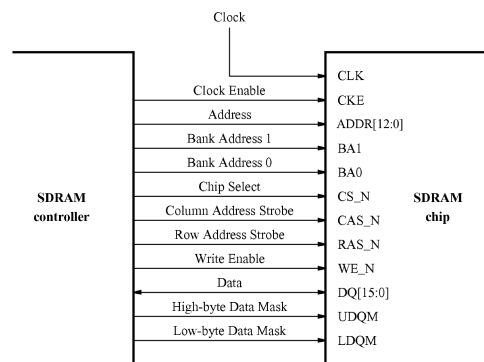

Figure 2. The SDRAM signals.
The two SDRAM chips on the DE2-115 board each have a capacity of 512 Mbits (64 Mbytes). Each chip is organized as 8M x 16 bits x 4 banks. The signals needed to communicate with a chip are shown in Figure 2. All of the signals, except the clock, can be provided by the SDRAM Controller that can be generated by using the Platform Designer tool. The clock signal is provided separately. It has to meet the clock-skew requirements as explained in section 7. Note that some signals are active low, which is denoted by the suffix N.
The Platform Designer tool generates an HDL file for the system, which can then be instantiated in a VHDL file. The augmented VHDL entity generated by the Platform Designer tool is in the file *nios_system.v* in the *nios_system\synthesis* directory of the project. Figure 8 depicts the portion of the code that defines the input and output signals for the entity *nios_system*. As in our initial system that we developed in the introductory tutorial, the 8-bit vector that is the input to the parallel port *Switches* is called *switches_export*. The 8-bit output vector is called *leds_export*. The clock and reset signals are called *clk_clk* and *reset_reset_n*, respectively. A new entity, called *sdram*, is included. It involves the signals indicated in Figure 2. For example, the address lines are referred to as the **output** vector *sdram_wire_addr[12:0]*. The data lines are referred to as the **inout** vector *sdram_wire_dq[31:0]*. This is a vector of the **inout** type because the data lines are bidirectional.
A first attempt at creating the new entity is presented in Figure 9. The input and output ports of the entity use the pin names for the 50-MHz clock, *CLOCK_50*, pushbutton switches, *KEY*, toggle switches, *SW*, and green LEDs, *LEDG*, as used in our original design. They also use the pin names *DRAM_CLK*, *DRAM_CKE*, *DRAM_ADDR*, *DRAM_BA*, *DRAM_CS_N*, *DRAM_CAS_N*, *DRAM_RAS_N*, *DRAM_WE_N*, *DRAM_DQ*, and *DRAM_DQM*, which correspond to the SDRAM signals indicated in Figure 2. All of these names are those specified in the DE2-115 User Manual and included in the file called *DE2_115.qsf*, which can be found on Intel's DE1-SoC web page at <https://www.altera.com/support/training/university/boards.html>
--           SDRAM ports correspond to the signals in Figure 2; their names are those